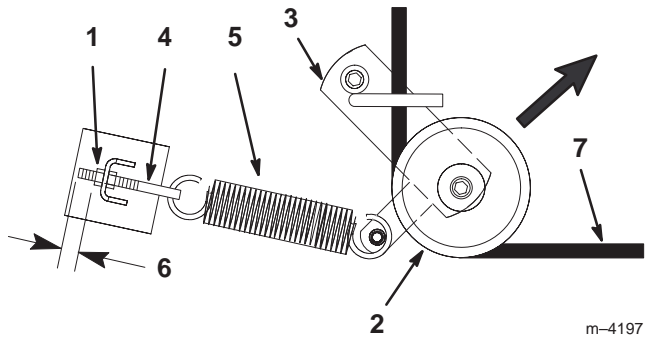
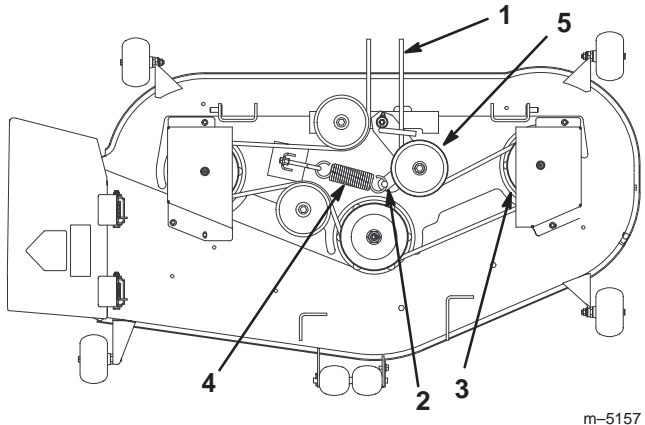

Figure 43
Figure 44
5. Pull the idler pulley in the direction shown in Figure 43 and roll the belt off of the pulleys.
6. Route the new belt through the idler arm and around the idler pulley (Fig. 43).
7. Pull the idler pulley in the direction shown in Figure 43 and route the belt onto the other pulleys (Fig. 44).
Note: Check to ensure that the length of exposed thread on the spring eye bolt is 1/8 inch (3 mm) (Fig. 43).